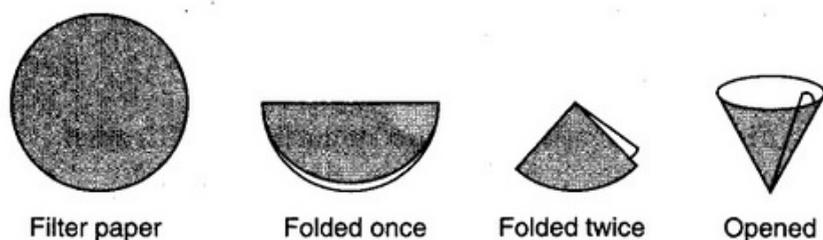

Fig. 5.3. Making a cone.
1. Take a circular filter paper. First fold it one-half, then fold it one-fourth as shown in Fig. 5.3. Open the filter paper, three folds on one side and one fold on the other side to get a cone (Fig. 5.3).